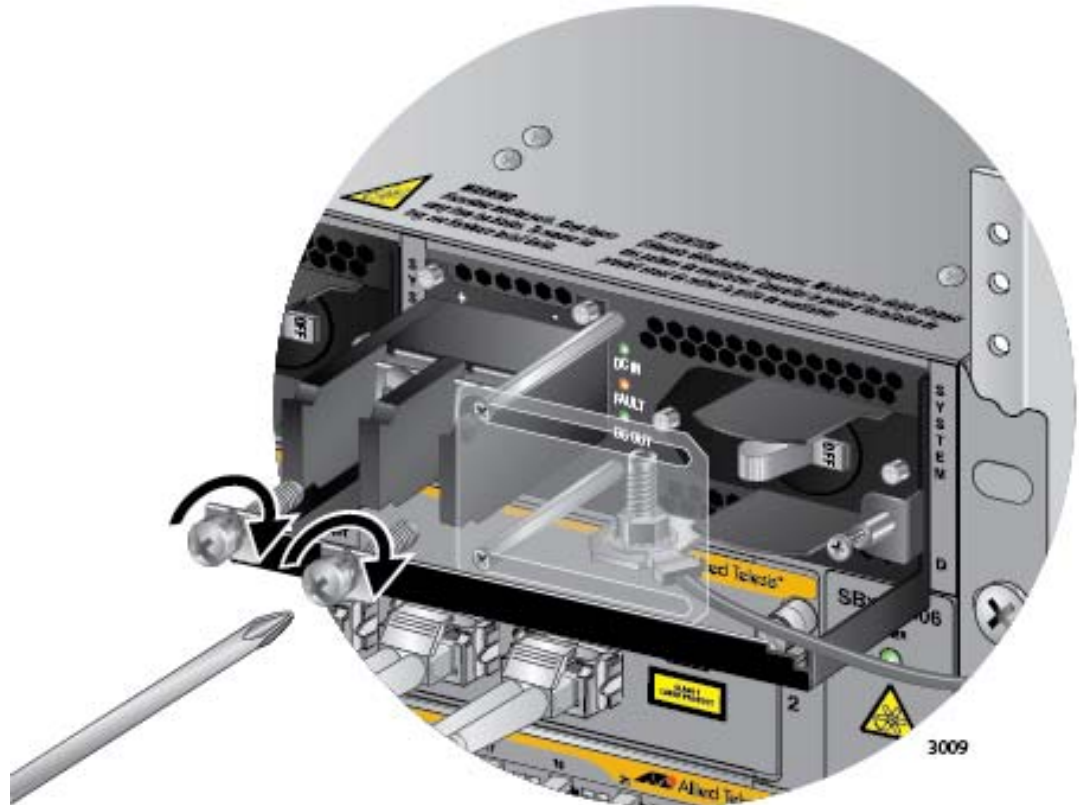

Figure 164. Reinstalling the Screws on the Positive and Negative Terminals
7. Reinstall the two screws on the negative (-) and positive (+) terminals. Refer to Figure 164 on page 263.